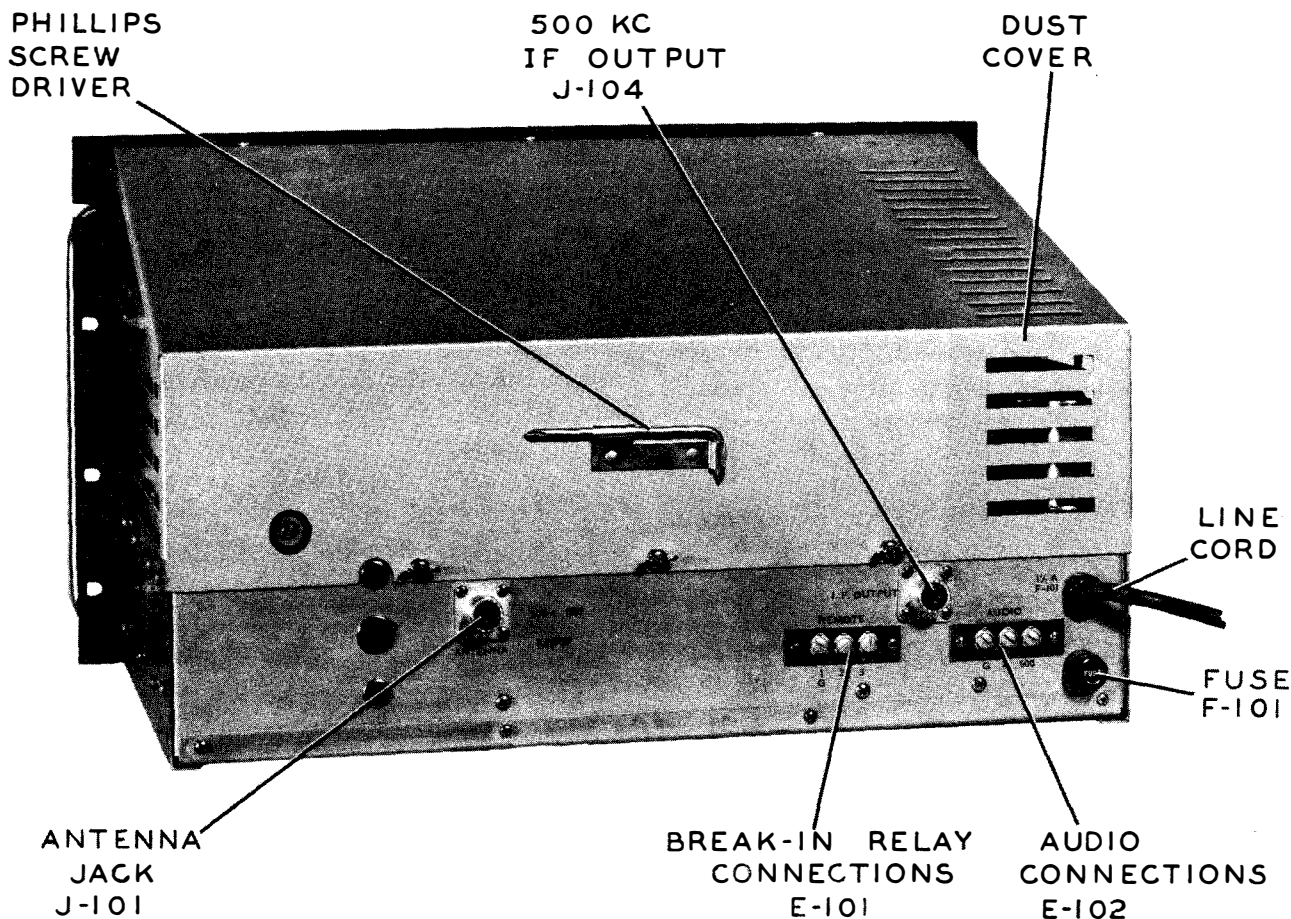

Figure 3-3. Rear Connections
When choosing a position for the equipment, give consideration to the convenience of power, antenna and ground connections, to placement of cables and to convenience in servicing the equipment. Rear panel connections, shown in figure 3-3, should be accessible without moving the receiver cabinet. Antenna lead and speaker cable lengths are not critical.
a. ANTENNA CONNECTIONS. - Connect a cable from a high impedance whip or a single-ended antenna to antenna jack, J101, on the rear panel. See figure 3-3. If the receiver is to be operated near a powerful transmitter, the r-f input circuit of the receiver should be protected by connecting break-in relay, K101, to operate when the transmitter is radiating. Break-in relay connections and functions are discussed in the following paragraph.